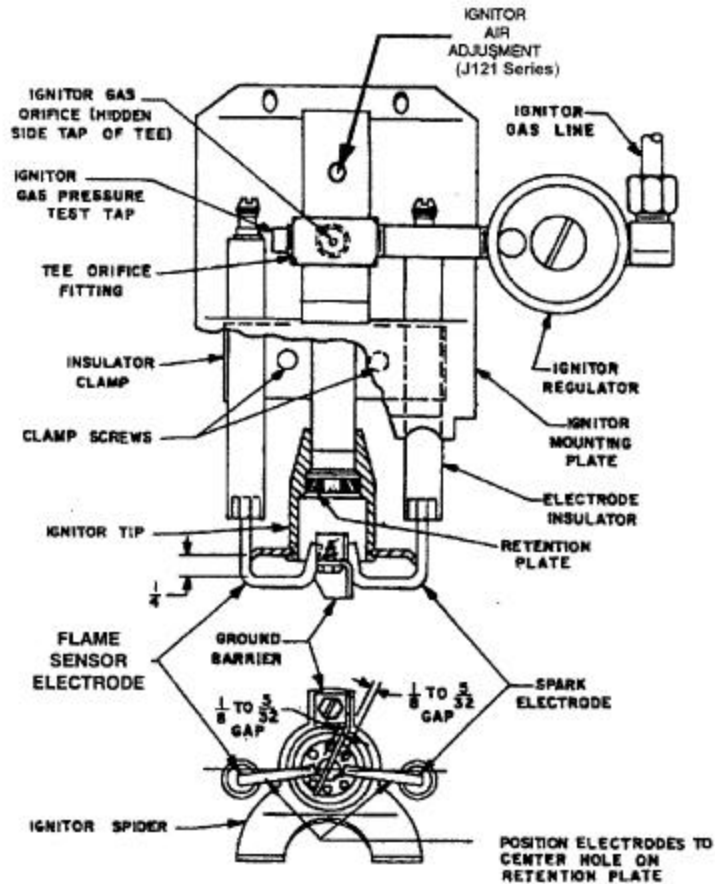

FIGURE 5 Ignitor and Flame Sensor Assembly
- When the ignitor gas pressure is in the proper range (see Table 3) and the electrodes are adjusted to the dimensions shown in Figure 5, any ignition problems are usually caused by lint, dust, corrosion, cracked electrode insulators, foreign matter in the blast tube or deterioration of ignitor ports in Retention Plate.
- Ignitor trouble will be evidenced by failure of main burner ignition. It may cause frequent Electronic Control lockout. Check for dirt in the ignitor air and mixture passageways and check for obstructions in the ignitor ports. Also check electrode adjustments (see Figure 5). Replace any severely burned parts.
- Clean the Ignitor Gas Orifice in Tee Orifice Fitting (see Figure 5) and check that the orifice size is correct per Table 3.
- Check that the electrode ends are positioned and that the gap between the end of each electrode and the ground barrier is spaced per Figure 5.
The Air adjustment screw is located under a plug button in the Ignitor Block about 1/2" behind the Ignitor Orifice (refer to Figure 5). A 5/64 (.078) inch hexagon wrench is required for adjustment. Pry up the plug button to expose air adjustment screw. Adjust the screw up or down to find the best Flame Signal or until repeatable and stable light-offs are achieved. Ignitor airflow is decreased as the screw is turned clockwise, and increased as it is turned counter-clockwise. Generally 3 to 5 turns up from full closed (screw bottomed out) works best.
- c. Check for spark between Spark Electrode and ground barrier. See Figure 5. If ignitor tip is not visible with burner mounted, but spark can be heard, continue with Step G4. If spark cannot be heard, refer to Section VIII IGNITOR AND REGULATOR ASSEMBLY for spark test.